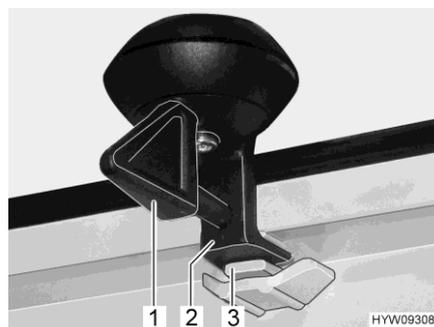

Fig. 71 Lock (ventilation position)
- Turn the lever (Fig. 71,1) one quarter turn. The lock (Fig. 71,2) must slide into the top recess (Fig. 71,3).